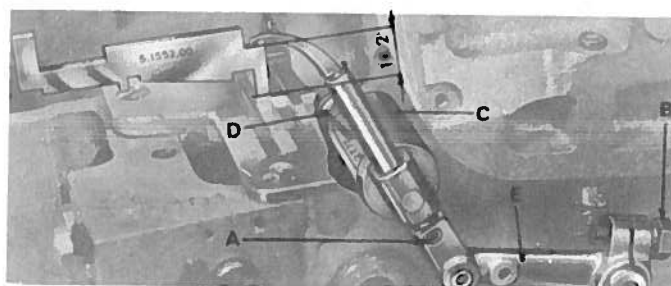

fig. 9
- When the secondary looper has completed its stroke to the left, the distance from the bottom of the looper point to the needle point is $25/64$ inch (fig. 9).
- Place timing gauge N. S.1552.00 on needle plate as shown in fig. 9.
- To adjust, loosen screw B (fig. 9) and move looper lever E (fig. 9) up or down until looper is set properly.
- Loosen screw B and A (fig. 9).
- With the needle on its downward stroke and the secondary looper starting to move to the right, the ball of the secondary looper touches the needle slightly without deflection. This is accomplished by loosening screws D and B (fig. 9) and moving secondary looper driving assembly complete with bushing C (fig. 9) forward or backward as may be required to obtain the proper setting.
- Special care must be taken when adjusting the secondary looper assembly to maintain a perfect alignment between secondary looper driving arm E (fig. 9) and secondary looper pivot sleeve in bushing C.